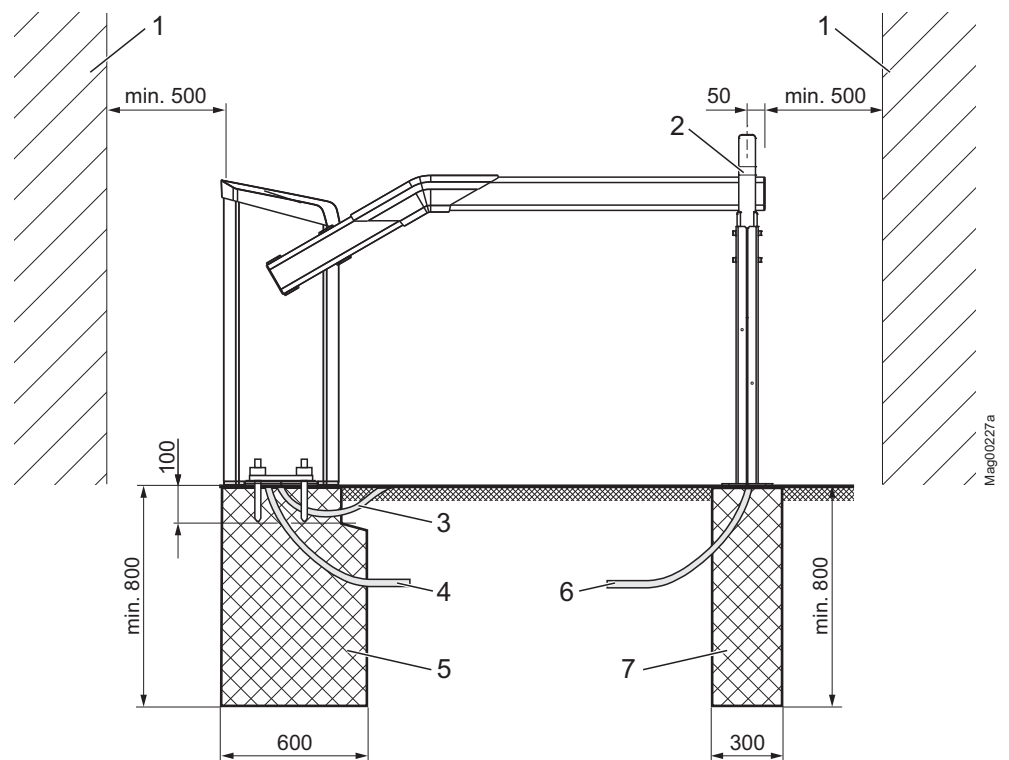
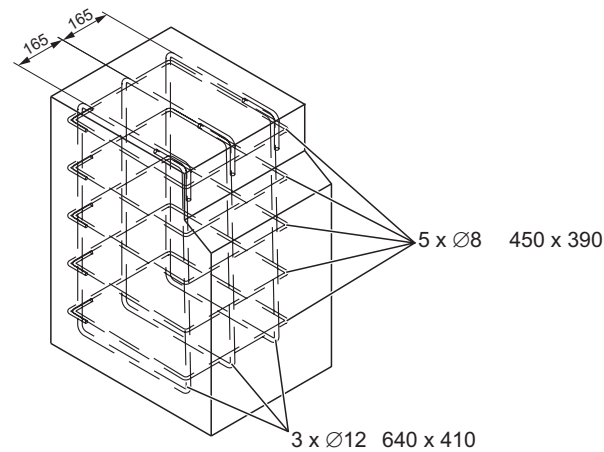
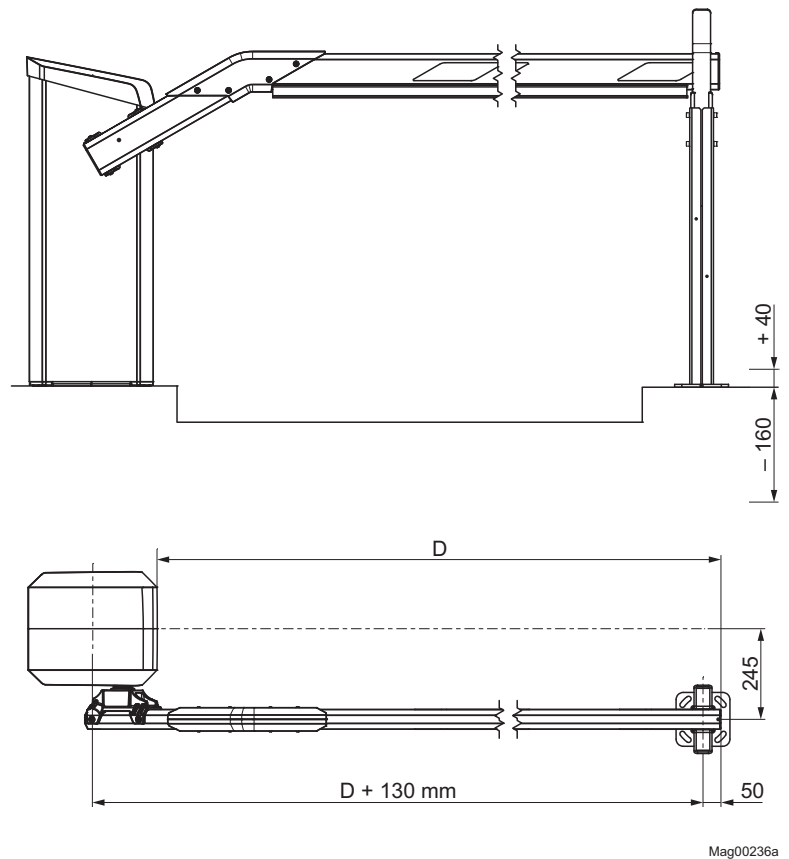

Fig. 15: Assembly boom system
Fig. 17: Reinforcement grid
Fig. 18: Dimensions barrier casing – post
<p>WARNING! Danger of crushing and shearing if the safety distance between the barrier boom and other objects is too low!</p> <p>A closing or opening barrier boom can cause severe injuries from crushing if the safety distance to other objects is too low!</p> <p>Therefore:</p> <ul style="list-style-type: none"> – Keep a safety distance of at least 500 mm between the barrier boom and other objects, such as walls, masonry or houses. → See page 27, chapter 2.7. – Assemble and install barrier system according to Fig. 15.
- Keep a safety distance of at least 500 mm between the tip of the barrier boom and other objects, such as walls, masonry or houses. → See page 53, Fig. 15.
→ See page 53, Fig. 15 and page 55, Fig. 17.
1. Dig foundation hole pursuant to Fig. 15 and Fig. 16.
2. Place reinforcement grid pursuant to Fig. 17 in the foundation hole.
- Place post centre at a distance of 50 mm from the barrier boom tip. → See page 57, Fig. 18.
→ See page 53, Fig. 15 and page 58, Fig. 18.